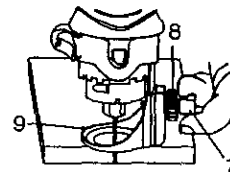

Fig. 11
1. Adjust removable handle cutting guide depth by loosening the depth gauge locking knob (7) and rotating the adjusting knob (8) to move the cutting guide (9) in or out as required (see Fig. 11).